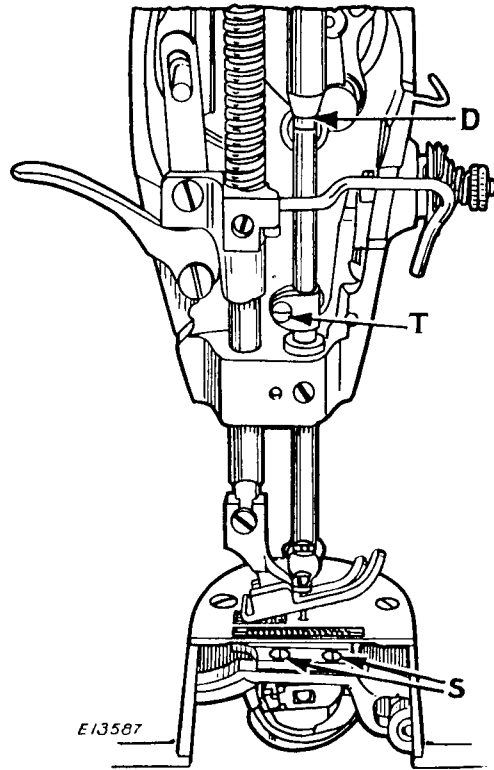

Fig.21
The needle bar, which is in the machine when shipped from the factory, has two timing marks near its upper end. Rotate the balance wheel until the needle bar moves down to its lowest position. The UPPER TIMING MARK on the needle bar should then be centered with the lower end of the needle bar bushing, as shown at (D) in Fig. 21. In case the needle bar is not set at the correct height, loosen screw (T, Fig. 21) and move the needle bar up or down until the UPPER TIMING MARK is centered with the lower end of the needle bar bushing, as shown at (D, Fig. 21), then securely tighten screw (T).
Remove presser foot, slide plate, throat plate and bobbin case. Take out the two screws (S, Fig. 21) and remove feed dog.